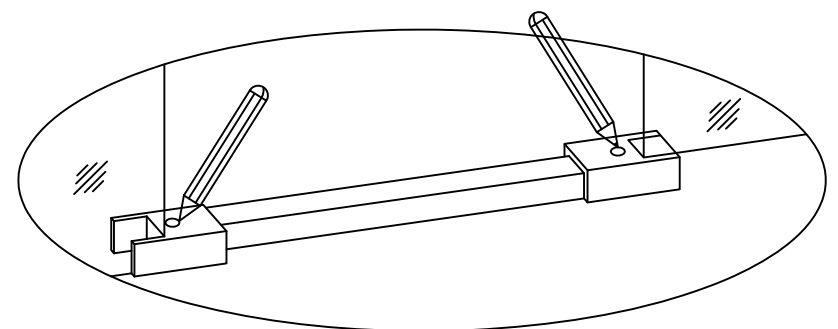

Fig.26
Position the Door Threshold bar (11) to shower tray by aligning in door opening with fixed glass. Mark the Threshold End Cap (12) mounting hole locations. See Fig.26 for details.